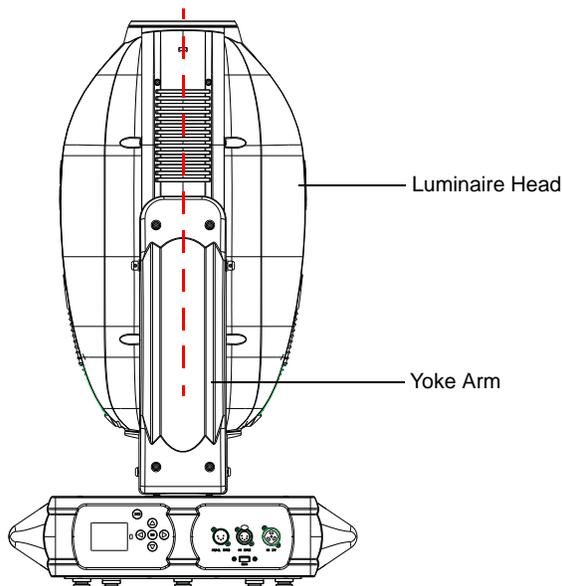

Figure 1: VL4000 Spot Luminaire
- Step 4. Manually move by hand the tilt of the luminaire's head until it is in alignment with the yoke arm as shown in Figure 1.